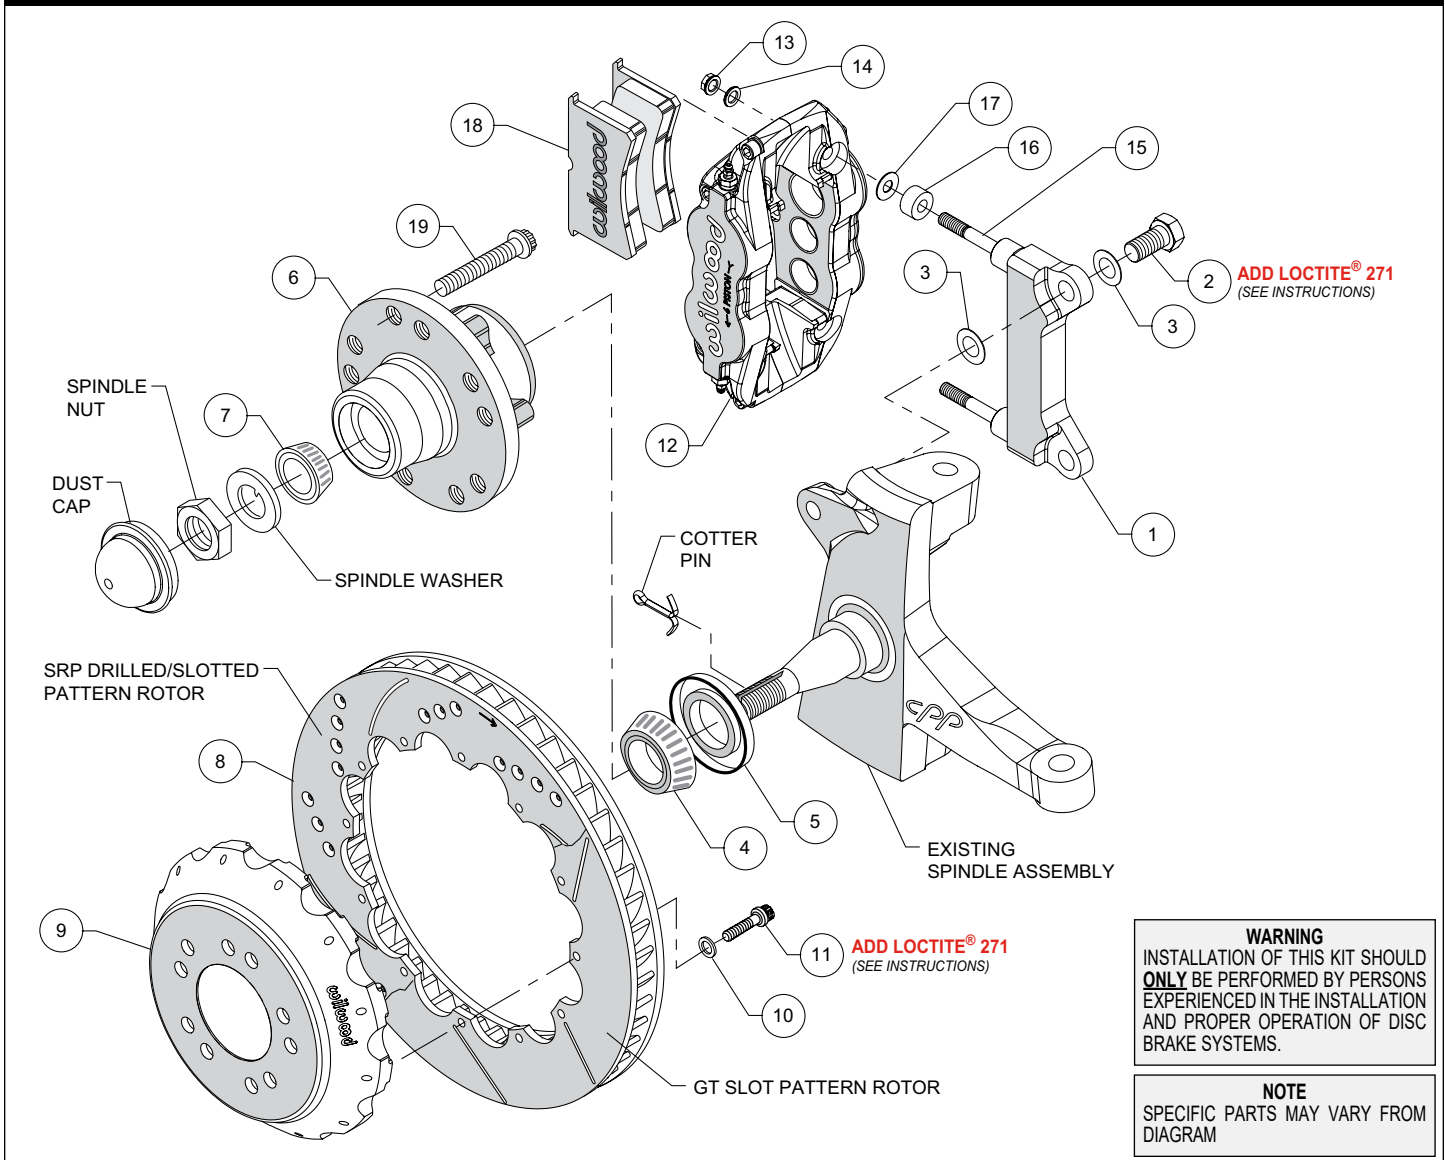

Figure 1. Typical Installation Configuration
NOTE: Numbers in parenthesis refer to the parts list and Figure 1 on the preceding pages.
- The caliper mount bracket (1) should initially be installed with clean, dry threads on the mounting bolts. Orient the bracket, as shown in Figure 1, and install using bolt (2) and washer (3). Initially place one .024" thick shim (3) on each bolt between the bracket and upright, Figure 1. Temporarily tighten the mounting bolts. **NOTE:** The bracket must fit squarely against the mount bosses on the upright. Inspect for interference from casting irregularities, machining ridges, burrs, etc. Later, after the caliper alignment has been checked, the mount bolts will be secured using red *Loctite*® 271.
- Install wheel studs (19) into the hub (6), Photo 1. Torque to 77 ft-lb. **NOTE:** There are two five lug patterns in the hub (5 x 4.75 and 5 x 5.00). Ensure the correct hub stud pattern is being used to fit the wheel application.
- Pack the large inner bearing cone (4) with high temperature disc brake bearing grease (available from your local auto parts store) and install into the backside of the hub (6), Photo 2.
- Install the grease seal (5) by pressing into the backside of the hub (6), flush with the end of the hub, Photo 3.
- Orient the rotor (8) and the hat (9) as shown in Figure 1 and Photo 4. Attach rotor to hat using bolts (11) and washers (10).
- Pack the small outer bearing cone (7) with high temperature disc brake bearing grease and install into hub (6). Slide the hub assembly onto the spindle. Secure using spindle washer and spindle nut, Photo 5. Adjust bearings per OEM specifications. Install a new cotter pin.
- Press the dust cap into the hub (6).
- Slide the hat/rotor assembly (8 and 9) onto the hub (6). **NOTE:** The hat must fit flush against the hub face or excessive rotor run out may result. Install three lug nuts (finger tight) to keep the hat/rotor assembly in place while continuing with the installation.
- NOTE:** This kit contains distinct right and left hand calipers that must be mounted in a specific direction, as described below. Initially place one .035" thick shim (17) and one spacer (16) on each stud (15) as shown in Figure 1 and Photo 6. Mount the caliper (12) onto the bracket (1) using lock nuts (13) and washers (14), Figure 1. Ensure that the caliper is mounted so that the largest pistons are at the rotor exit end of the caliper, in relation